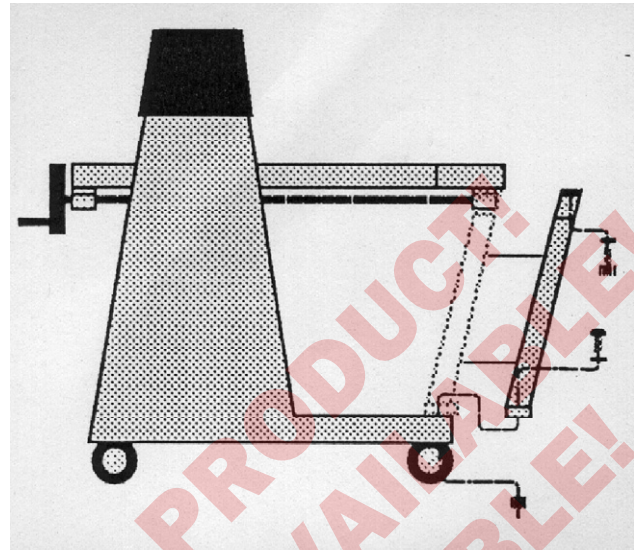

fig. 1
(fig. 1)
1. To maneuver the cutter through a 32" doorway, remove the rear table support. (fig. 1)